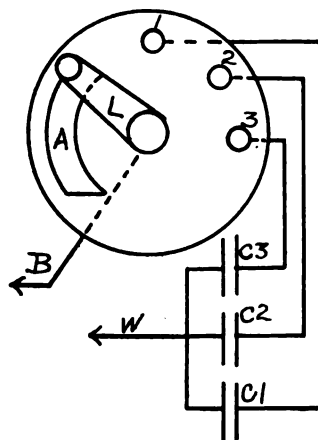

Fig. 52.—Condenser switch
The special type of switch to be used in connection with the adjustable condenser is illustrated in Fig. 52. It is made from a regular bell switch, which can be purchased from any electrical supply house by soldering a strip of brass or copper (A) to the lever. It is advisable to purchase the lever and contact points only, and to set the points in a circle in the case of the set, the same as with the tuning coil switches.